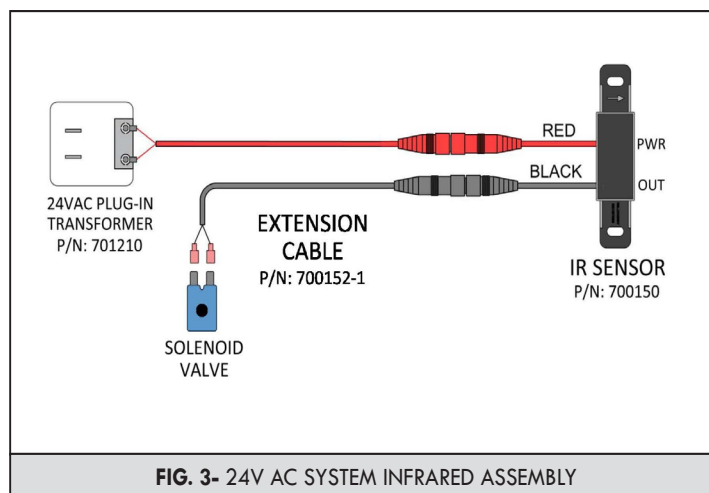

FIG. 3- 24V AC SYSTEM INFRARED ASSEMBLY
- 4) Connect the red male power cable to the female connector on the sensor (**SEE FIG. 3**).